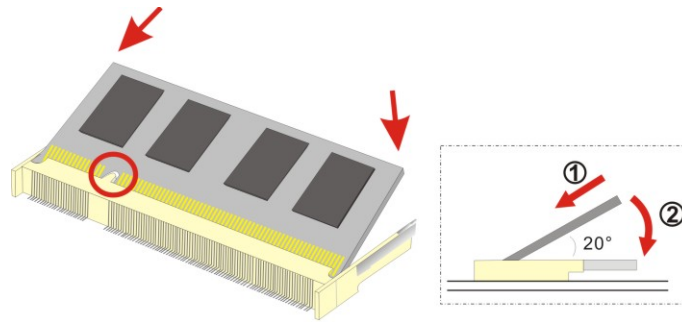

Figure 4-1: SO-DIMM Installation
To install an SO-DIMM, please follow the steps below and refer to Figure 4-1.
- Step 3:** Insert the **SO-DIMM**. Push the memory in at a 20° angle. (See Figure 4-1)
- Step 4:** **Seat the SO-DIMM**. Gently push downwards and the arms clip into place. (See Figure 4-1)